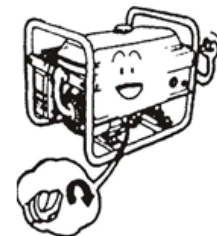

Figure 12
- If the oil level is below the lower mark of the dipstick, add oil to its higher mark (Figure 12)